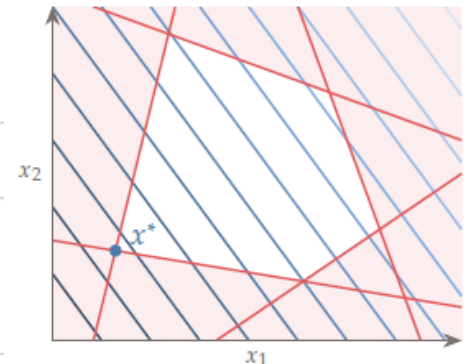

Figure 1.16 Example of linear optimization problem with two variables.
- The first numerical optimization algorithms were developed to solve linear optimization problems, and there are many applications in operations. An example of a linear optimization problem is shown in Fig. 1.16.